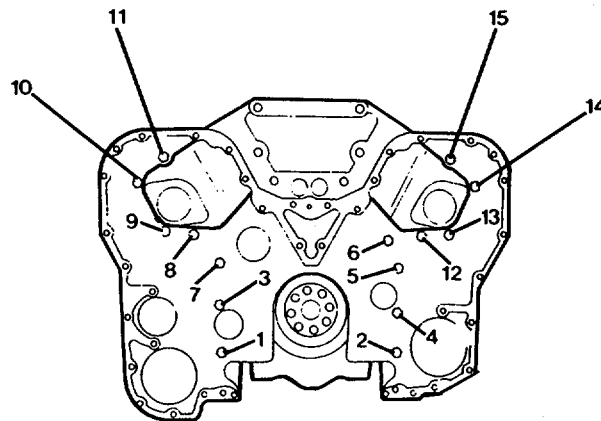

FIGURE 3-14. Front Gear Cover Torquing Sequence.
- (1) Position gasket (16) on front gear housing (15) with bolt holes aligned.
- (2) Position front gear housing (15) on engine with bolt holes aligned.
- (3) Install fifteen lockwashers (14) and hexagon head capscrews (13).
- (4) Tighten capscrews (13) to 45 ft-lb (60 N•m) using the sequence shown in FIG. 3-14.